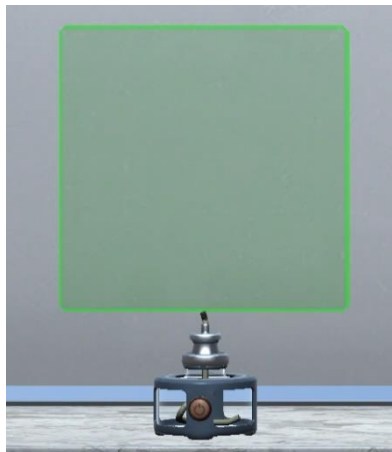

Figure 87 – Green indication of the spirit lamp interaction zone
To turn the lamp on or off, press the button (1) on the device (1) (Figure 86). To start heating, place the container in the green interaction zone (see 7.5.1 Object Interaction zones) of the burner (Figure 87). Multiple containers with substances can be heated simultaneously in the heating zone.